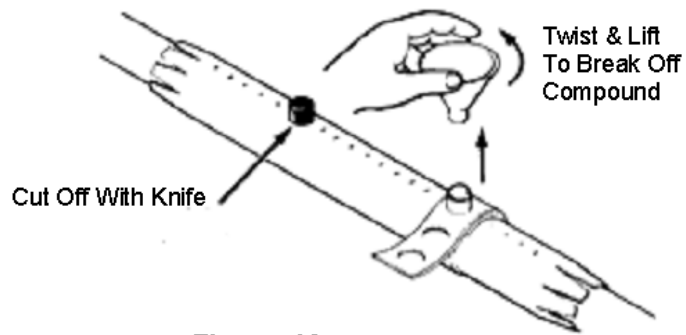

Figure 10
1. Remove funnels by twisting and lifting, breaking off from compound. (Figure 10)
2. Remove mold straps and funnel supports. (Figure 10)
3. Carefully cut off any spout compound protrusions from repair, using a knife. (Figure 10)
3. Alternately squeeze ends of pouch forcing compound rapidly back and forth and strip compound from corners of pouch between fingers. Mix until color is completely uniform – 30 to 40 VIGOROUS SQUEEZES. *DO NOT EXCEED 1 MINUTE.* (Figure 10)